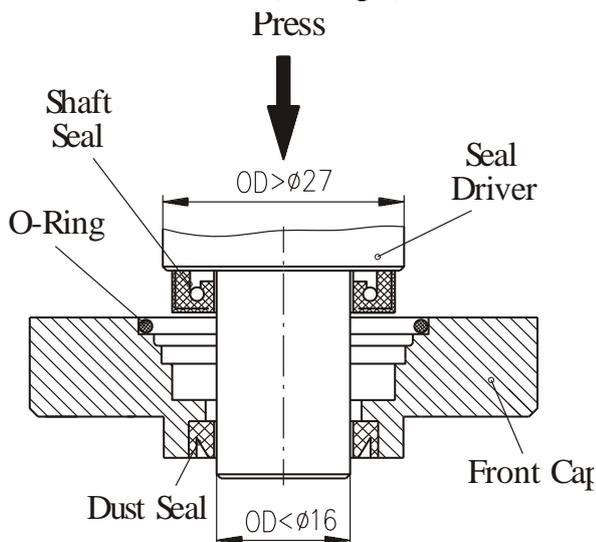

Fig. 7
5. Place shaft seal in the front cap and firmly push with Seal driver (see Fig.7).